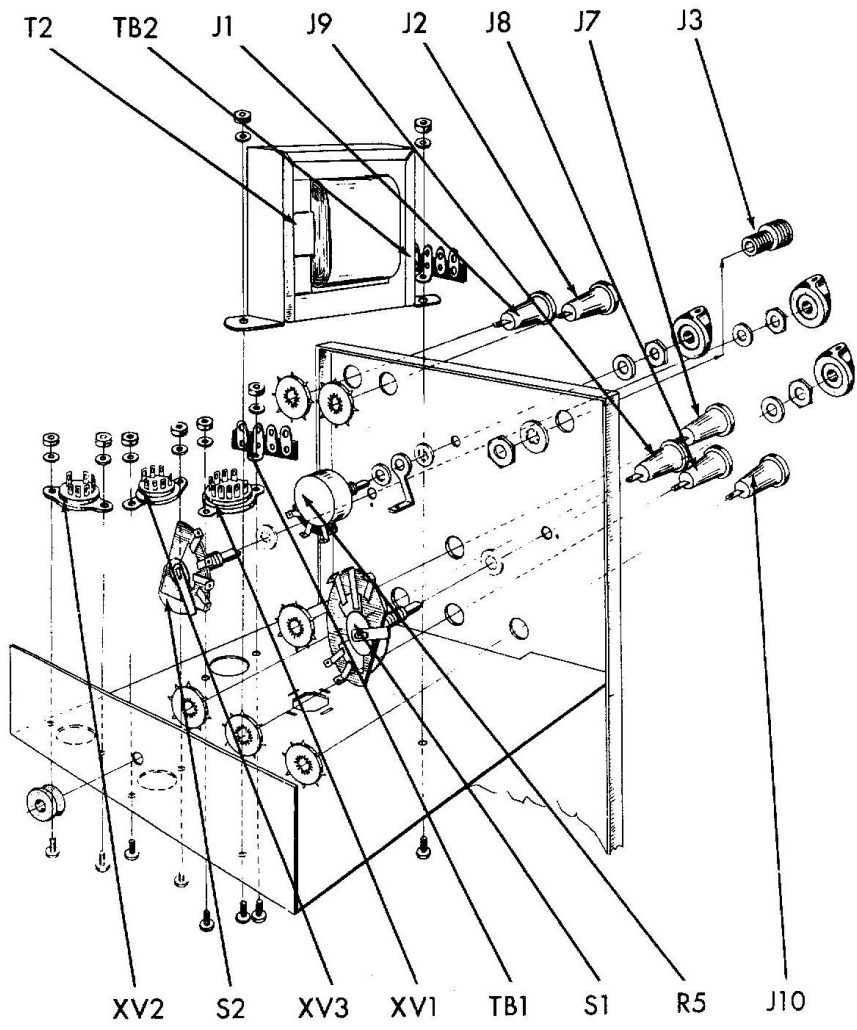

Fig. 1
1. () Fig. 1. Mount the red pin jack J1, in the lower left hand corner of the panel at the AF IN. Use a star washer. With the smooth or convex rounded side of the star washer facing away from the panel, press the star washer firmly against the panel over the pin jack until the pin jack is held securely.
2. () Fig. 1. In a similar manner, mount black pin jack J2 at the ground of the AF IN, black pin jack J9 at TEST AMP, black pin jack J8 at GND, black pin jack J10 at VTVM SCOPE and black pin jack J7 at TEST SPKR. Use one star washer on each to secure jacks as above.
3. () Fig. 1. Mount the male amphenol connector J3, at hole marked RF IN. Use two lockwashers and a hex nut to secure to panel.
4. () Fig. 1. Mount the 500K Ω gain potentiometer, R5, as shown. Use two 3/8 flat washer, one 3/8 lock washer, one pot grounding lug and one 3/8 hex nut. When tightening nut, let the grounding lug be opposite pin 1 on the pot to facilitate wiring.
5. () Fig. 1. Mount 9 pin miniature tube socket XV1 as shown. Use two #4-40 x 1/4 screws, two #4 lockwashers and two #4-40 hex nuts. Mount a 3 post 2 right with ground terminal strip, TB1, under one of the lockwashers (Fig. 4).
6. () Fig. 1. Mount 7 pin tube sockets XV2 and XV3 as shown. Use two #4-40 x 1/4 screws, two #4 lockwashers and two #4-40 hex nuts (Fig. 4).
7. () Fig. 1. Push the rubber grommet into the 3/8 hole at the rear of the chassis.
8. () Fig. 1. Mount power transformer T2, 30023, as shown. Use two #6-32 x 1/4 screws, two #6 lockwashers and two #6-32 hex nuts. Mount a 3 post 2 right with ground terminal strip, TB2, as shown under one of the lockwashers. The twin black leads should face the outside edge of the chassis.
9. () Fig. 1. The chassis is held to the panel with the two switches. Mount the half wafer output selector switch, S1, and the quarter wafer input selector switch S2, through the chassis and associated panel holes as shown. The key hole adjacent to the mounting hole on the chassis, determines the direction for mounting the switches, by pushing the key on each switch through this hole. Use a 3/8 lockwasher, a 3/8 flat washer, and a 3/8 hex nut on each switch as shown to secure the chassis, panel and switches.